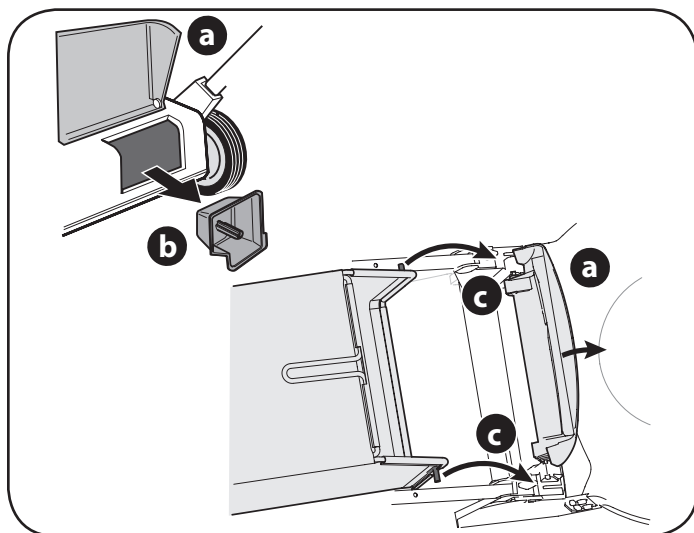

Figure 8
- c. Place grass catcher into the slots in the handle brackets as shown in Figure 8. Let go of discharge door so that it rests on the grass catcher.